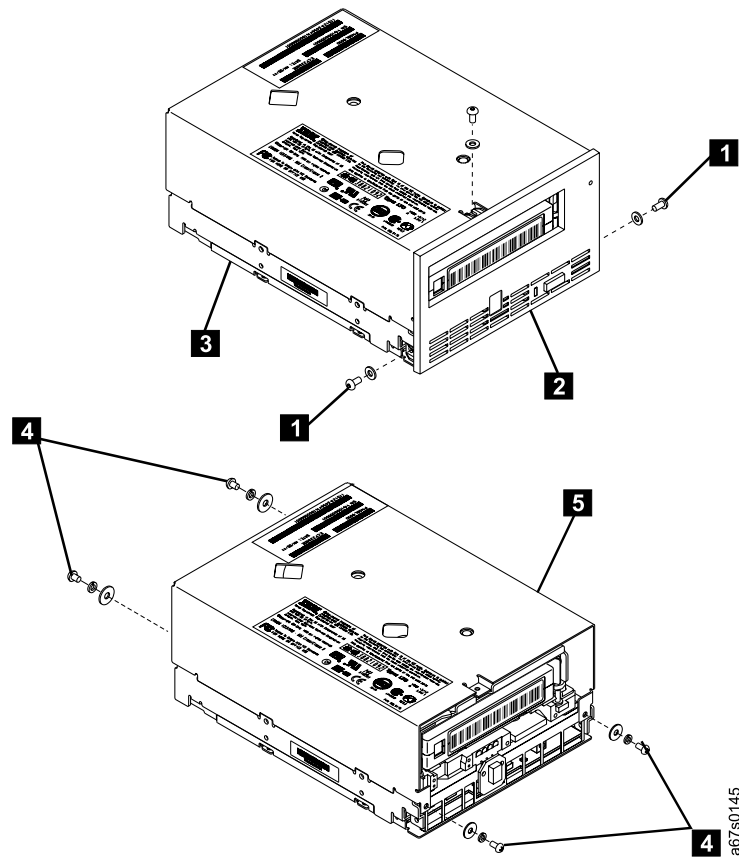

Figure 31. Removing the cover from the internal drive
1. Using a Phillips screwdriver, remove the three screws and washers (see **1** in Figure 31) that secure the bezel **2** to the internal drive **3**, then remove the bezel.